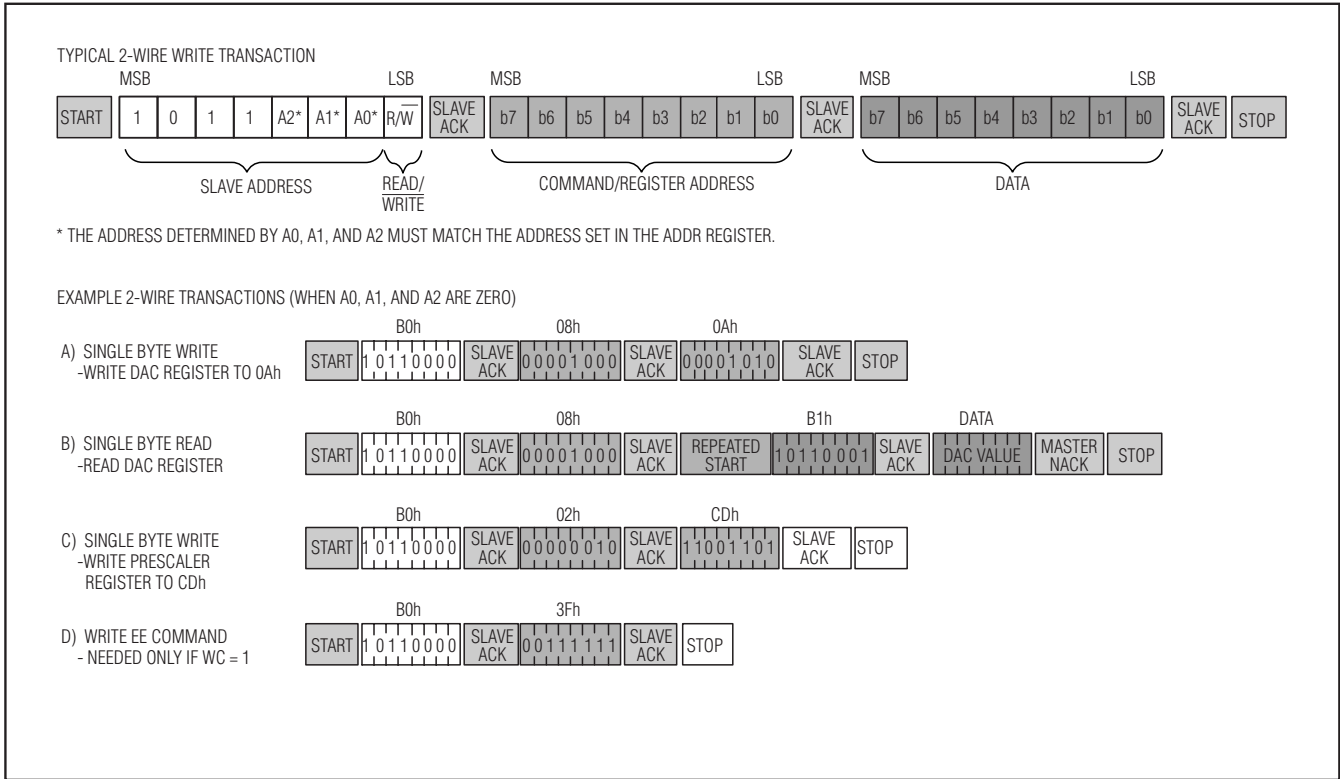

Figure 5. 2-Wire Communication Examples
**Reading a Single Byte from a Slave:** A dummy write cycle is used to read a particular register. To do this the master generates a start condition, writes the slave address byte (with  $R/\overline{W} = 0$ ), writes the memory address of the desired register to read, generates a repeated start condition, writes the slave address byte (with  $R/\overline{W} = 1$ ), reads the register and follows with a NACK (since only one byte is read), and generates a stop condition. See Figure 5 for examples of reading DS1094L registers.